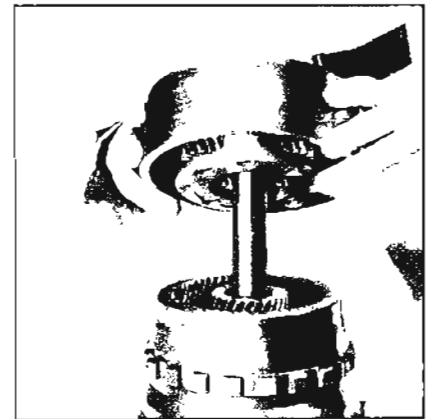

Figure 5-557
4. Remove the reaction carrier and sprag assembly. See Figure 5-557.